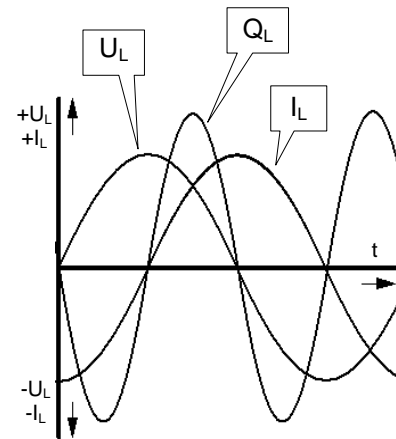

Fig. 14.4.3.2: Reactive power, Q_L
- Assemble the circuit in Fig. 14.4.3.3 on the Electronic Circuits Board.